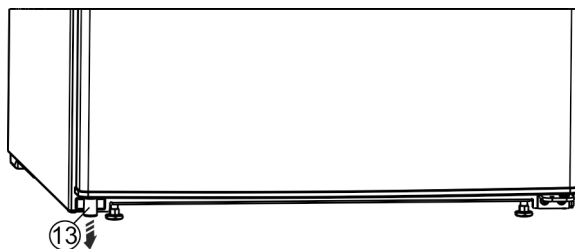

Fig. 13 \*
- ▶ Remove the spacer Fig. 13 (13) from under the left-hand side of the door.\*